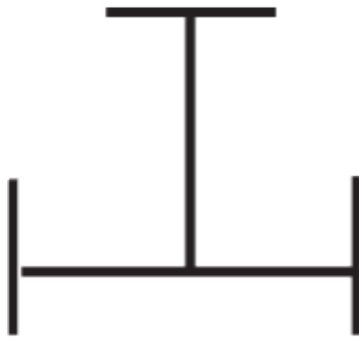

Figure 6 Illustration for Question 11
11. The symbol in Figure 6 is a